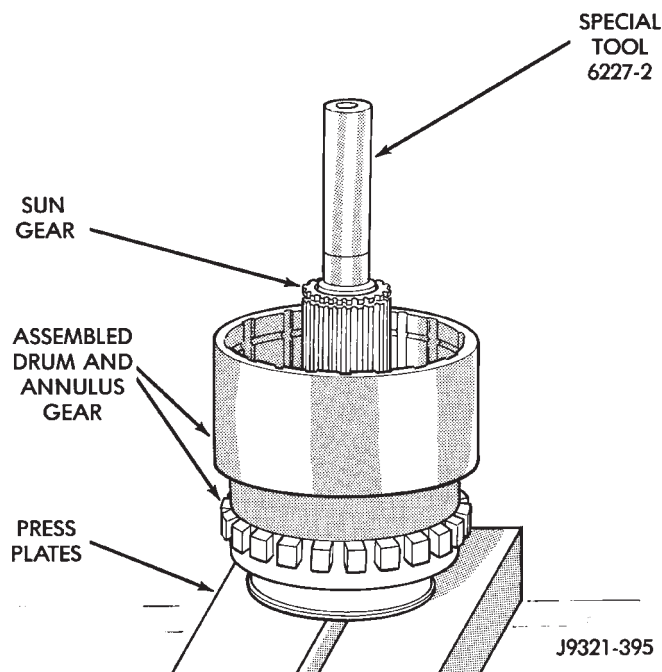

Fig. 47 Alignment Tool Installation
(17) Align splines in hubs of planetary gear and overrunning clutch with Alignment tool 6227-2 (Fig. 47). Insert tool through sun gear and into splines of both hubs. Be sure alignment tool is fully seated before proceeding.